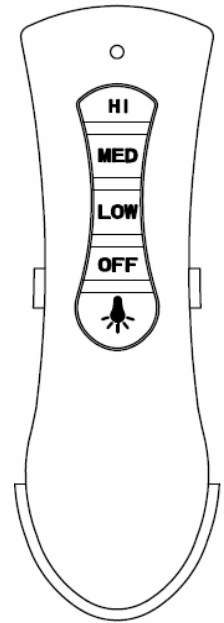

Fig. 11b
3. Slide the remote into the holder. (Fig. 11b).